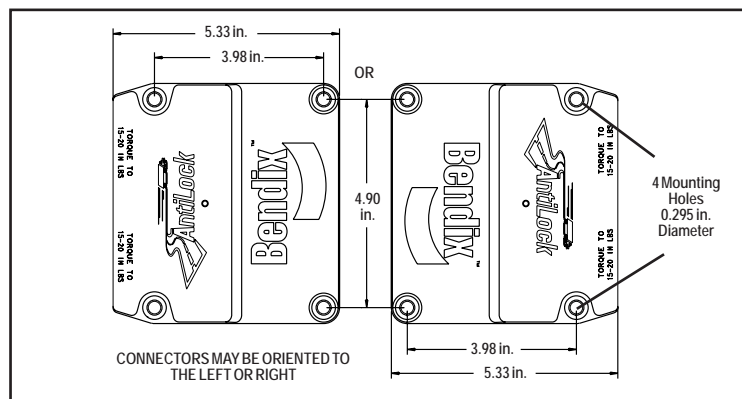

FIGURE 2 - FRAME MOUNT RECOMMENDED SIDWAYS ORIENTATION
- d. If the EC-30™ controller is mounted on the frame, Bendix strongly recommends that the orientation is parallel to the frame (see Figure 2). Mark the mounting hole locations, and drill the 4 mounting holes (0.295 in. diameter).
Is the ECU (frame) mounted in a sideways manner (see Figure 2)?